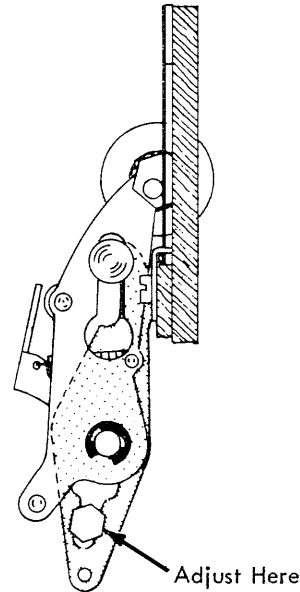

FIGURE 77. Rotate Arm Movement
10. **Rotate Arm Motion** - The adjustable plate on the bottom of the rotate arm (Fig. 77) should be adjusted up or down so that a half-cycled upper case +5 rotate character detents the same as a half-cycled upper case -3 rotate character. When observing the detenting remove the head play lightly in the negative direction.